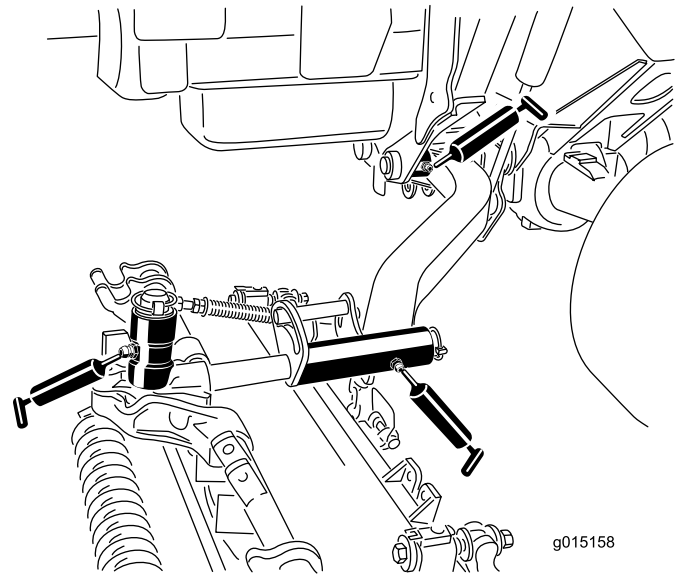

Figure 53
- Lift arm pivot bushings (1 per cutting unit) (Figure 53)
- Cutting unit carrier frame (2 per cutting unit) (Figure 53)
- Cutting unit lift arm pivot (1 per cutting unit) (Figure 53)